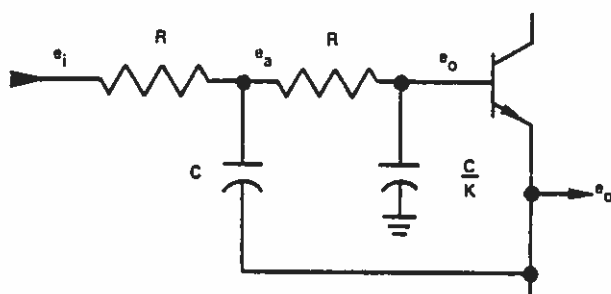

Fig. 1.4. ORTEC 490B Active Filter.
The 490B active filter circuit is shown in Fig. 1.4. The major attraction of the active RC filter is the simple synthesis of a complex pulse shape resulting in a significant reduction in size, complexity, and cost. For a given resolving time (RC) the time response of the filter network depends only on K (see the circuit equations in Fig. 1.4). For $K = 1$ the transfer function simplifies to